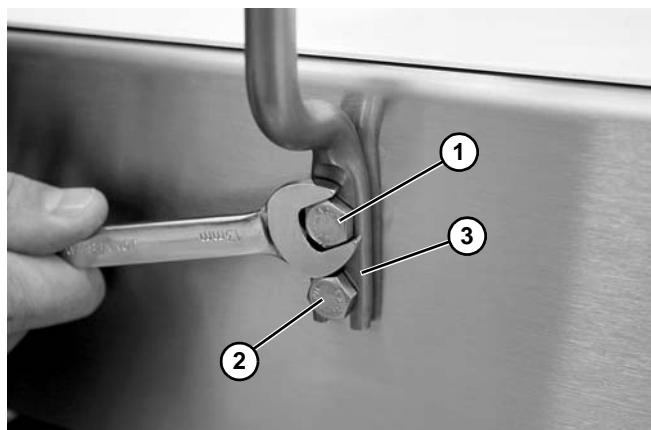

Figure 37
1. Remove the top bolt (**Figure 37, item 1**) and loosen the bottom bolt (**Figure 37, item 2**).
2. Install the guide post (**Figure 37, item 3**) behind lower bolt. Reinstall top bolt and tighten bolts.